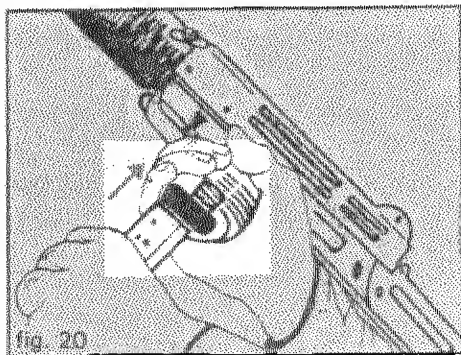

fig. 20
4. Tilt the gun to the right, and insert the magazine into the pistol grip opening with your left hand. Push until magazine catch snaps into place. (fig. 20)